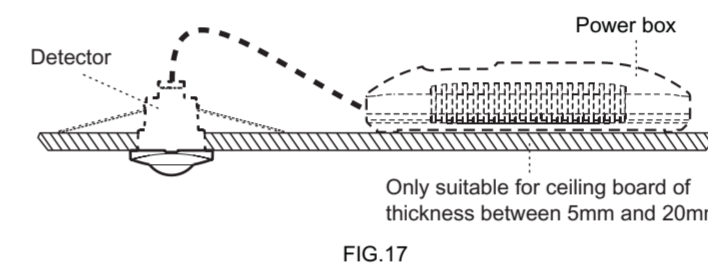

FIG.17
- Adjust detector's position and secure bottom of detector is stuck firmly on ceiling (FIG.17).